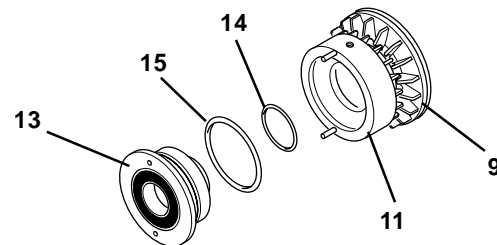

FIGURE 9
13. Clean the O-ring Seal contact surfaces of the Piston (Item 13) and Cylinder (Item 11) with fresh safety solvent (See Figure 9).
15. Install the new O-ring Seals (Items 14 and 15) onto the Piston (Item 13), then wipe off any excess O-ring lubricant (See Figure 9).
16. Slide the Piston (Item 13) into the Cylinder (Item 11) (See Figure 9).